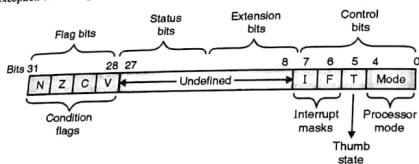

Fig. 11.5.1 : CPSR and SPSR register format
- Each exception mode contains a saved program status register (SPSR). It is responsible for holding the value of CPSR incase the exception occurs. Fig. 11.5.1 shows the format of the CPSR and SPSR registers.